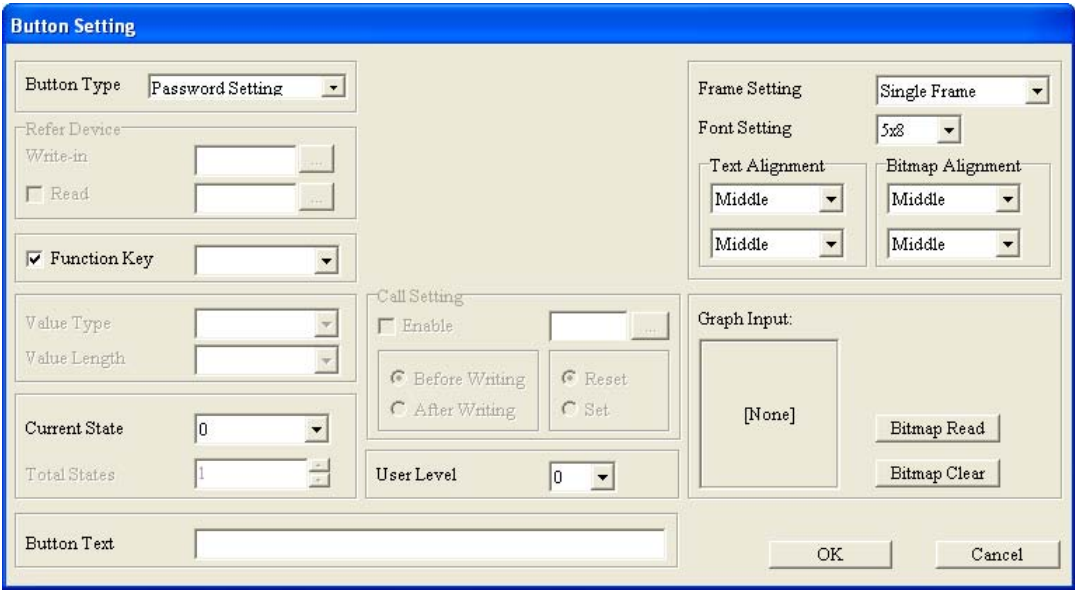

Figure 4-73 **Button Setting** window
- If **Password and Setting** is selected, the **Button Setting** window will be as shown in Figure 4-73.